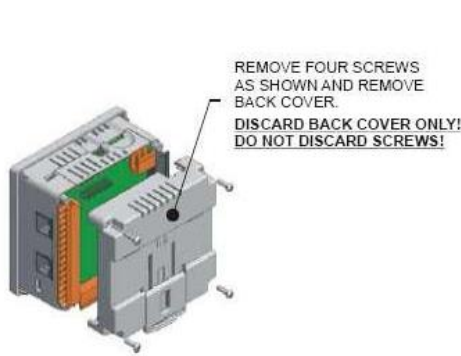

Figure 1 - Removing Back Cover of the XLE
2. Remove the four screws on the back of the XL-Series unit and remove the back cover. The back cover will be replaced with the extended back cover that ships with the I/O add-on. Screws are re-used (Figure 1).